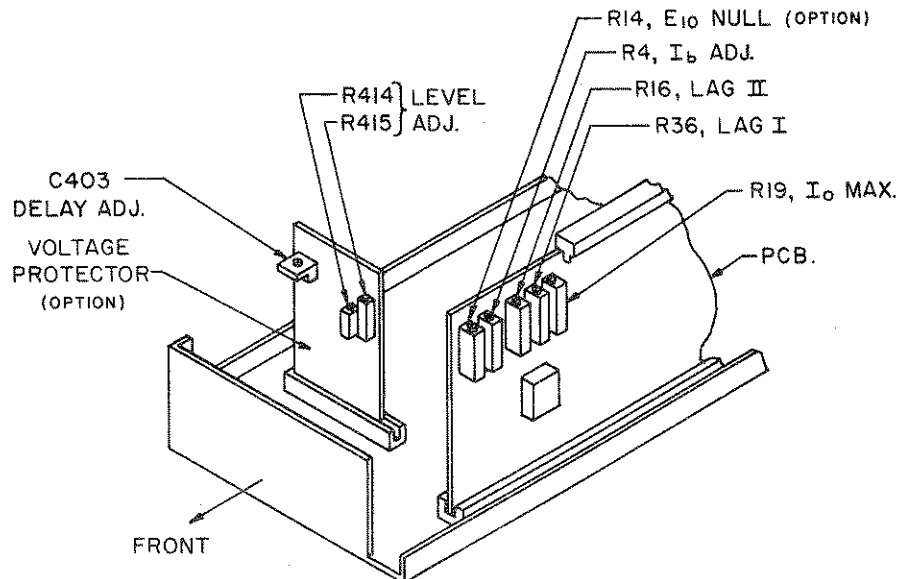

FIG. 2-1 LOCATION OF INTERNAL ADJUSTMENTS (NOT APPLICABLE TO "—HS" MODELS)
- c) INTERNAL ADJUSTMENTS AND CALIBRATIONS: Refer to FIG. 2-1 and TABLE 2-1.
- d) (Models suffixed "-VP" only) Check the "crowbar" action of the overvoltage protector by first adjusting the VOLTAGE CONTROL to about one quarter of the rated output voltage. Locate the "Vlimit" adjustments (R414,415, refer to FIG. 2-1) and turn the "Coarse" adjustment (R415) slowly counter clockwise until the output voltage goes suddenly to zero as observed on the panel meter. Turn AC POWER SWITCH "off". Turn the coarse "Vlimit" control (R415) fully clockwise again.